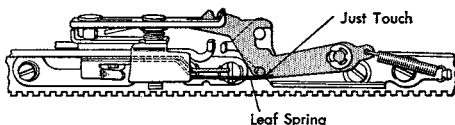

Figure 23. Leaf Spring Adjustment
10. LEAF SPRING. Form to just contact the upright stud of the rebound check lever when the check lever is at rest (Figure 23).